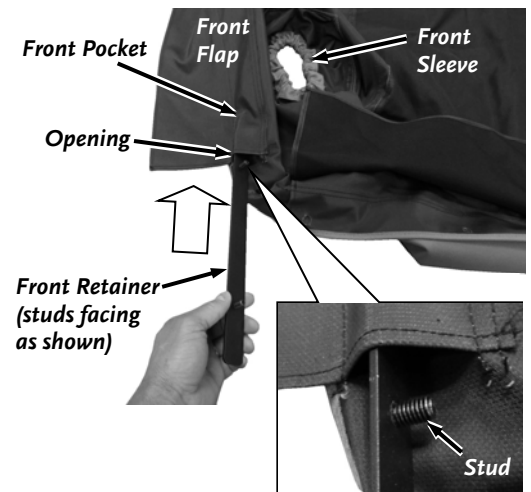

Figure 24
3. Install a Front Retainer into the end of the front Enclosure pocket. It's easier if you keep the studs tilted sideways until they align with the pocket holes (Figure 24).